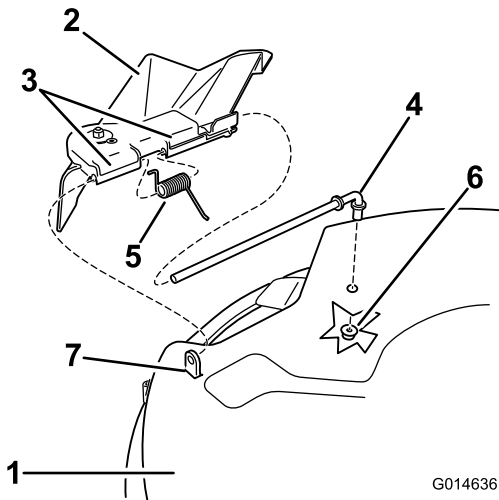

Figure 59
- Place the spring on the rod, with end wires down, and between the grass deflector brackets. Slide rod through second grass deflector bracket (Figure 59).
- Insert rod at front of grass deflector into short stand-off on deck. Secure rear end of rod into the mower with a nut (3/8 inch) (Figure 59).
- Locate items shown in Figure 59.
- Remove the nut (3/8 inch) from the rod under the mower (Figure 59).
- Slide the rod out of the short stand-off, spring, and grass deflector (Figure 59). Remove the damaged or worn grass deflector.
- Replace the grass deflector (Figure 59).